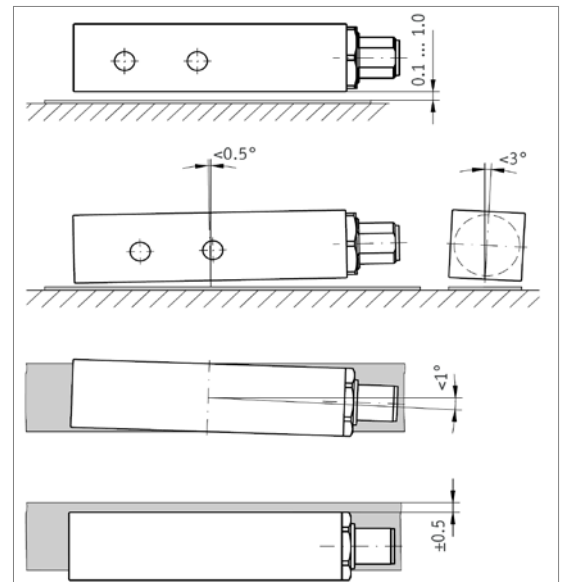

Fig. 7: Mounting tolerances
Attention! When mounting sensor and magnetic strip please observe that both components are correctly aligned and that the mounting tolerances are respected (see fig. 7).
The sensor's position relative to the magnetic strip is exactly defined. The correct gap between sensor and magnetic strip must be maintained over the total travel distance, irrespective whether the strip or sensor moves (fig. 7).
Within the defined limits (fig. 7), errors due to deviation are less important than errors resulting from strip and sensor tolerances.
- Tolerance for the gap between magnetic sensor and magnetic strip not observed over the total travel distance. Sensor touches strip (see fig. 7).
- Sensor's active side not mounted towards the magnetic strip (see fig. 7).